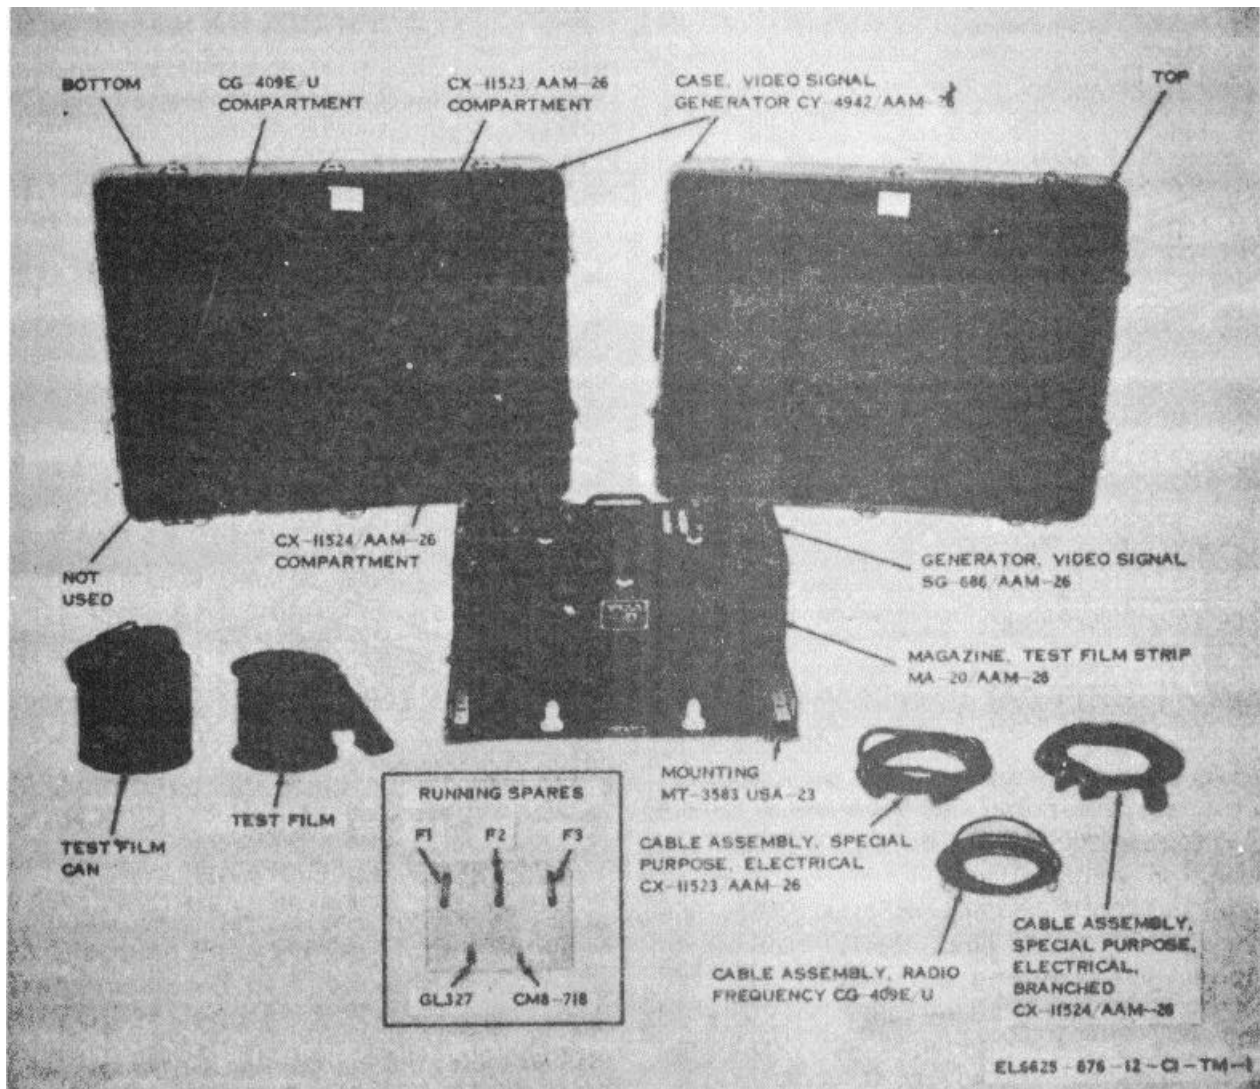

Figure 1-2. Generator, Video Signal AN/AAM-26, components (including running spares and test film).
The *video generator* (fig. 1-2) consists of the video generator group, power cable, signal cable, video signal cable, transit case, and a test film. The video generator
d. *Cable Assembly, Special Purpose, Electrical CX-1152S/U (14 Ft Lg)* (fig. 1-2). The *power cable* is connected between Power Supply PP-4478/AAS-14A or PP-4516/TAQ-1A and the main frame to supply the required power and synchronizing (sync) voltages to the video generator.
e. *Cable Assembly, Special Purpose, Electrical, Branched CX-11524/AAM-26* (fig. 1-2). The *signal cable* interconnects the infrared receiver and the main frame to provide the video signal input and synchronizing pulses to the infrared receiver.
f. *Cable Assembly, Radio Frequency CG-409E/U (14 Ft 2 In. Lg)* (fig. 1-2). The *video signal cable* is used to connect the video signal from the main frame to the demodulator.
g. *Case, Video Signal Generator CY-4942/AAM-26* (fig. 1-2). The *transit case* consists of a top and a bottom shell which fit together to form a complete container. The two shells are held together with draw latches when the transit case is closed. The joint
h. *Test Film* (fig. 1-2). The test film contains video information and resolution charts that are converted to video signals in the main frame. Data on the test film consists of a leader, seven identical 5-foot segments of video, seven 0.5-foot resolution charts, and 200 feet of continuous video. The test film is stored in the magazine.
- a. Open the transit case (fig. 1-2) as follows:
- (1) Place the transit case on a good work surface with the top shell up.
- (2) Release and completely disengage the draw latches.
- (3) Lift off the top shell of the transit case to expose the equipment.